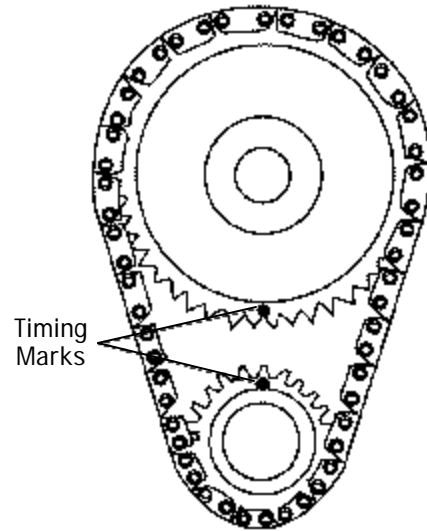

Figure 1 - Timing Chain Sprocket Alignment.
13. Rotate engine until timing marks are aligned as shown in Figure 1.
2. Install new camshaft with new sprockets, timing chain and lifters. *CAUTION: Use Edelbrock Performer-Plus True Rolling Timing Chain and Gear Set #7820 (1965-1972-1/2) or #7811 (1973-1990). Accu-Drive gear drive set #7892 may also be used. Do not use late model timing chain & gear sets that are designed in a retarded position and are not recommended for this camshaft installation.* Edelbrock Timing Sets feature three keyways for specific timing selection. Use locking compound material on the bolt threads holding timing gear to cam. Torque to factory recommendations specified in motor repair manual. Install camshaft with timing marks lined up as recommended by factory specifications. See Figure 1. When using Performer-Plus Timing Chain and Gear Sets (7800 series) with Edelbrock cam and lifter kits, straight up timing alignment is achieved. If any other timing gear set is used, it is necessary to check cam position for correct timing alignment. This requires indexing the camshaft with a degree wheel to verify timing alignment. O.E.M. or non-Edelbrock timing gear sets are not recommended for use with Edelbrock camshafts.
After the cam is installed and timed correctly (see Figure 1), it will be necessary to check each pushrod for correct lifter pre-load.